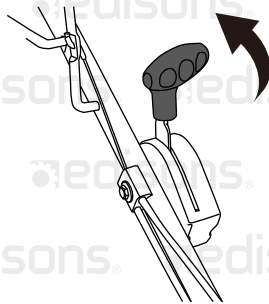

Fig. 16
2. Move the throttle lever upward to idle speed position  (Fig. 16). Let the engine run at idle speed for 10-15 seconds.